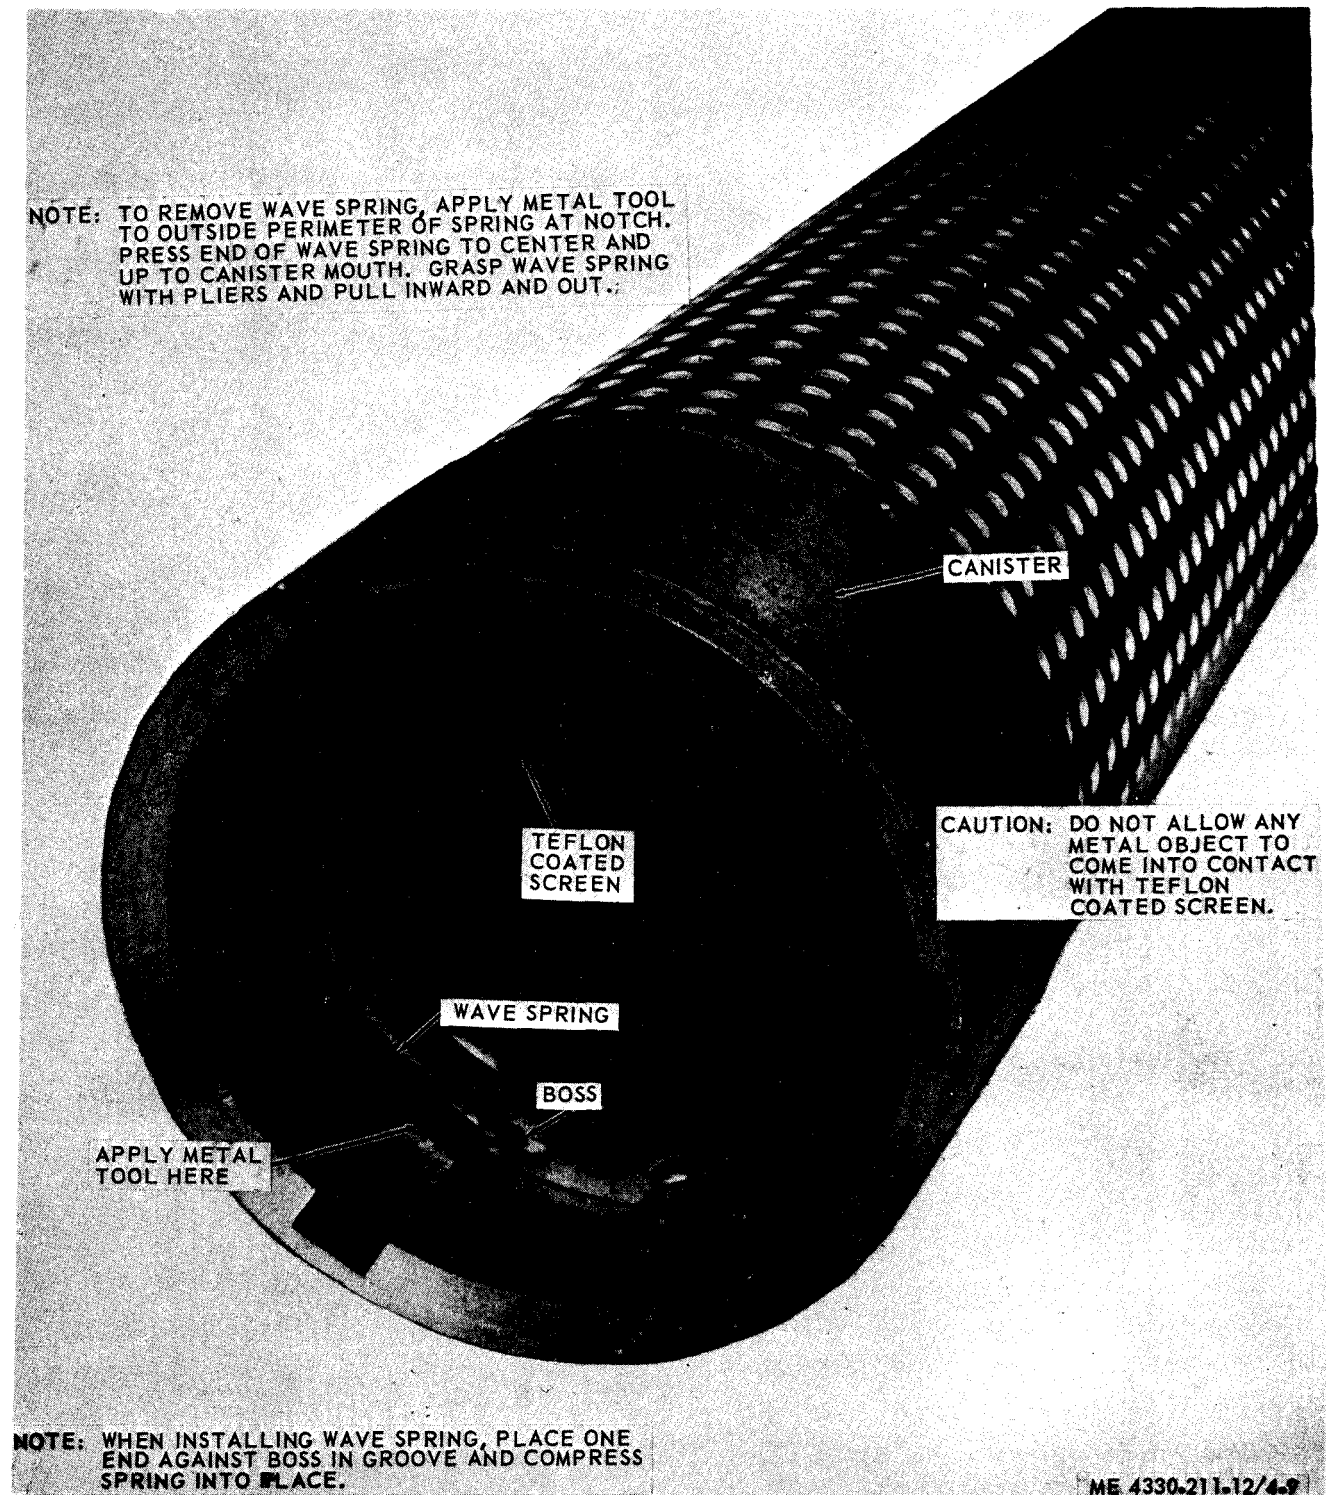

Figure 4-9. Wave spring, removal and installation.
(1) Refer to paragraph 3-2 and remove the canisters as instructed.
(2) Refer to figure 4-9 and remove wave spring as instructed.
(1) Refer to figure 4-9 and install wave springs as shown.
(2) Refer to paragraph 3-2 and install the canisters as instructed.